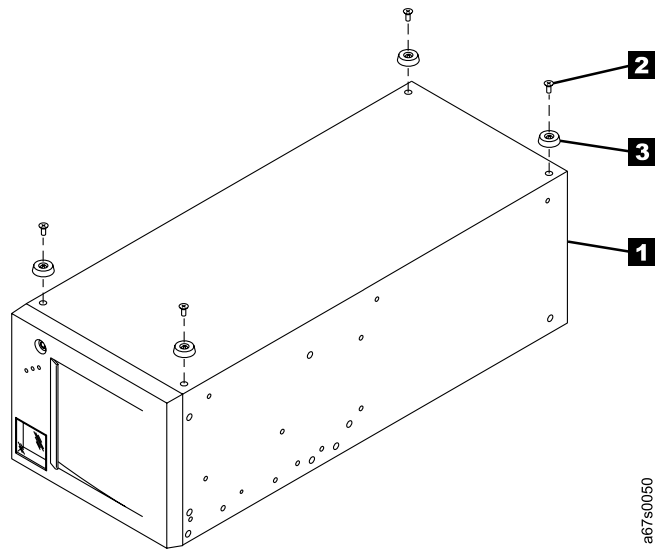

Figure 42. Removing the feet from the 3581 Tape Autoloader. The autoloader is upside down.
6. Set the 3581 Tape Autoloader upside down on a flat work surface (see **1** in Figure 42).